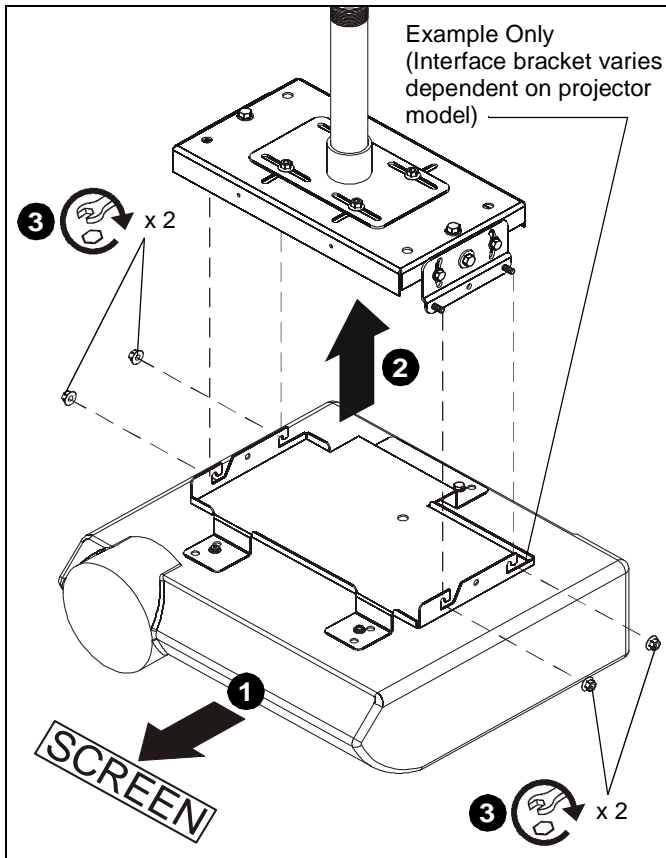

Figure 3
1. Orient projector with attached interface bracket so that it is square to the screen. ((Siehe Abb. 3))
2. Lift the projector and install it to the four studs extending from the VCM housing. ((Siehe Abb. 3))
3. Tighten the four 5/16" flange nuts. ((Siehe Abb. 3))